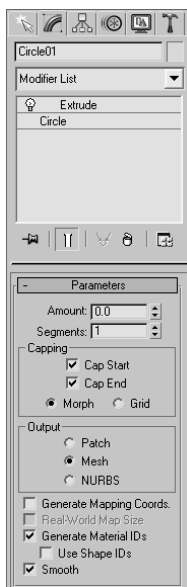
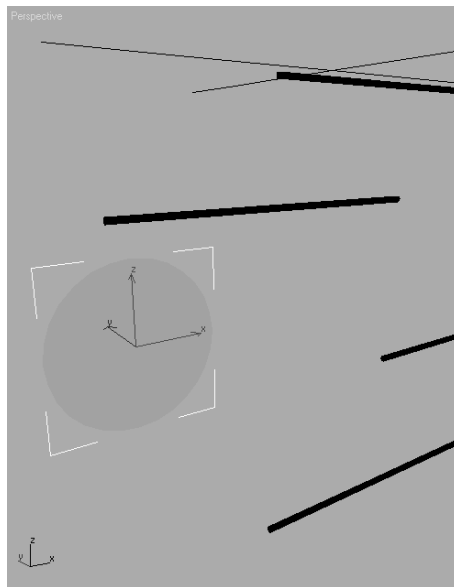

Figure 2.16
Figure 2.17
- In the box below the Modifier List pulldown menu, there is a new entry called Extrude that sits above the existing Circle entry for the selected Circle01 object. This box is called the *Modifier Stack* and is shown in Figure 2.16. The Modifier Stack displays all the modifiers that are contributing to the selected object, in this case the circle. The Circle modifier entry holds the original parameters of Circle01 while the new Extrude modifier entry holds the parameters for the extrusion you just applied to the circle. The circle now has a surface and is solid in the Perspective viewport (Figure 2.17).
9. In the same way you created the disc using an Extrusion modifier on the circle, make a hexagon into a solid shape by adding an Extrusion modifier to it. Select the hexagon (named *NGon01*). In the Modifier panel, click the Modifier List pull-down menu and select Extrude (as seen in Figure 2.16). The *NGon01* object will now have its own Extrude modifier in the Modifier Stack.